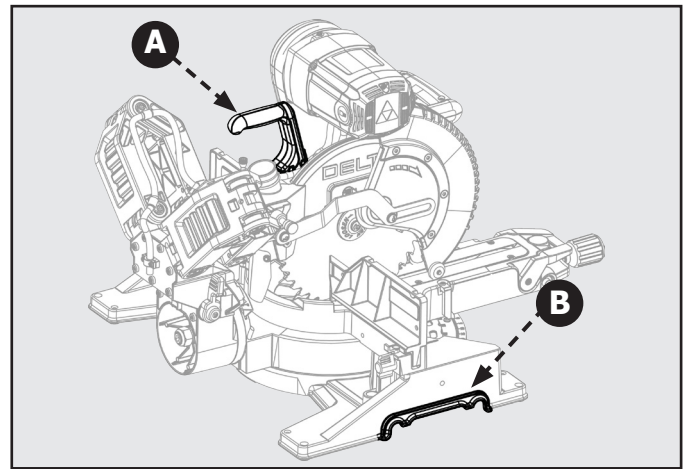

Figure 5
For transportation use the included carry handle (A) as shown in Fig. 5. You may also lift using the cast-in handle cut-outs (B) on both sides of the saw base as shown in Fig. 5.